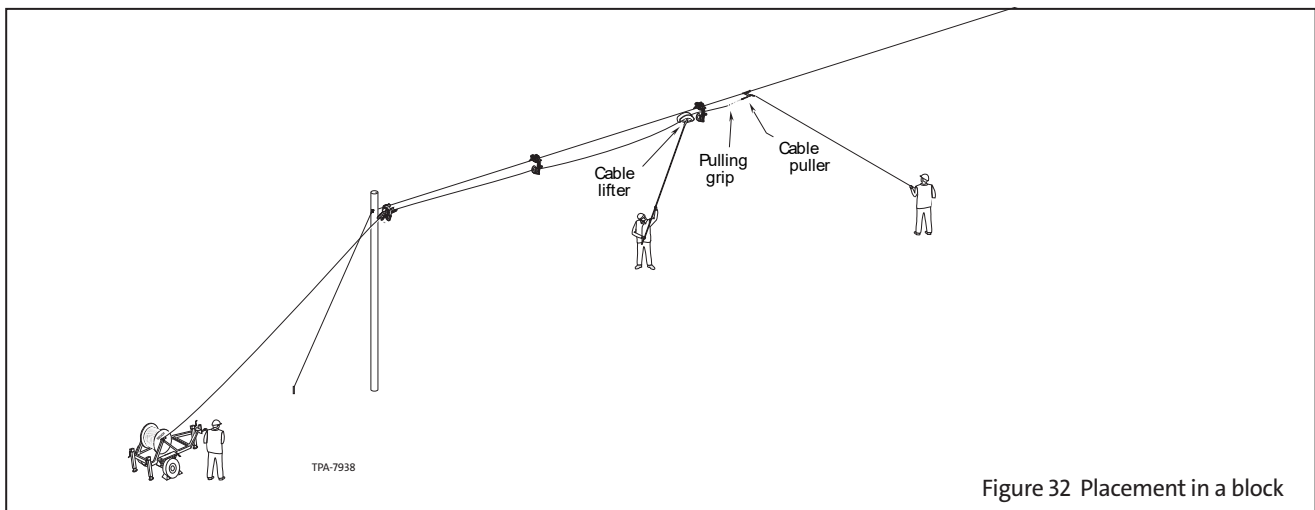

Figure 32 Placement in a block
3. Continue pulling the cable until the cable end has gone approximately 25 to 30 feet (7.6 to 9 m) past the first cable block location. When you relax the pulling force, the cable puller's brake should lock onto the strand. Lift and secure a block onto the strand, and then use a cable lifter to place the cable onto the cable block's roller (Figure 32).